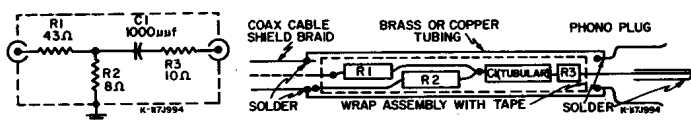

FIG. 2 I-F SWEEP INJECTION DIAGRAM AND PROBE CONSTRUCTION
6. Inject signals from a properly terminated AM signal generator or sweep generator through the network in Figure 2 to the I-F injection jack.
The I-F injection jack is not a phono type receptacle. The connection is made by the end of the phono plug touching the contact inside the injection jack. The outside shell of the plug grips the injection jack firmly. Press the plug firmly into place without excess pressure. See Figure 2 for plug construction.